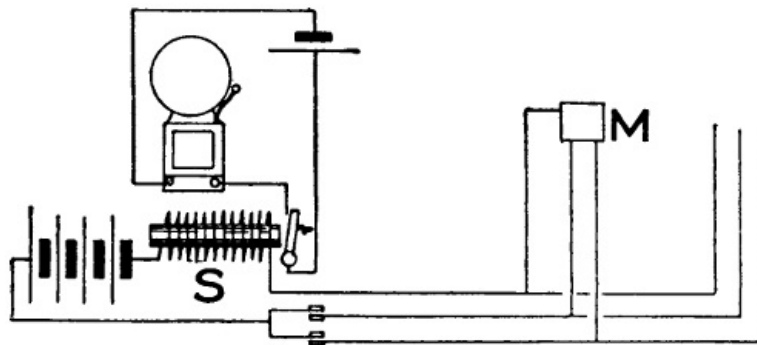

FIGURE 163.
*Gas Lighting.*—Electric gas lighting is very little used at the present time, but in many theaters the emergency lighting is by gas and, in order to save the time necessary to light these by hand before every performance, an automatic gas lighting system has been installed in some theaters. A diagram of such a system is shown in Figure 163. A battery of considerable capacity is necessary and also a spark coil *S*. At each gas jet a magnet *M* is installed which, when energized, is capable of turning the gas on and at the same time producing a spark. This magnet is also capable of turning the gas off. Two buttons are provided, one to turn the gas on and the other to turn it off.